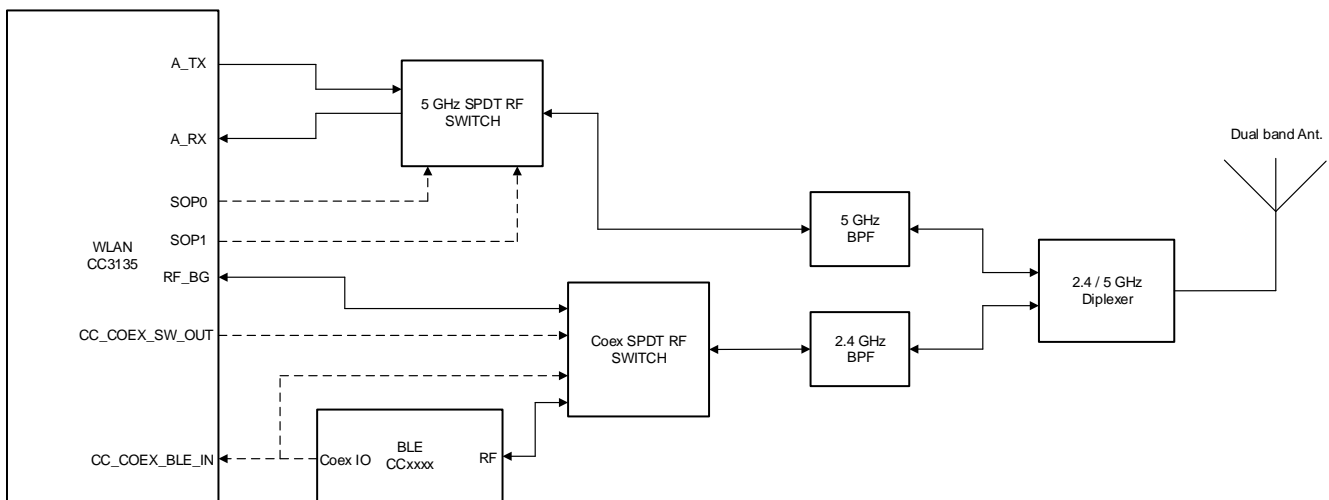

Figure 7-2. Single Antenna Coexistence Solution with 5 GHz Wi-Fi®
- 5 GHz Wi-Fi band (see Figure 7-2)
Figure 7-2 shows the single antenna implementation of a complete Bluetooth® low energy and WLAN coexistence network with the WLAN operating on either a 2.4- or a 5 GHz band. The SOP lines control the 5 GHz switch. The Coex switch is controlled by a GPIO signal from the BLE device and a GPIO signal from the CC3135 device.